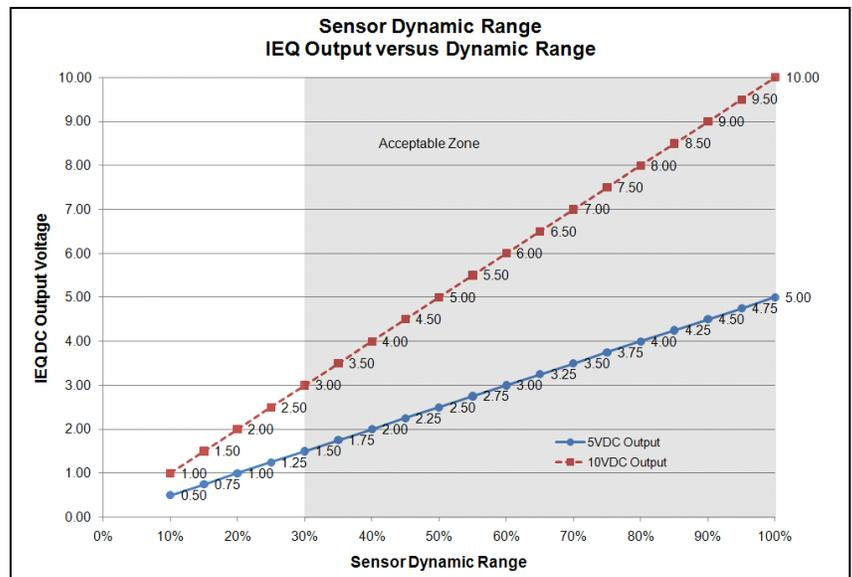

Figure 14: Acceptable Dynamic Range Output
- B. The IEQ algorithm requires a 30% dynamic range for proper operation. Sensors reporting 30% or less dynamic range should be considered for replacement. (see Figure 14)